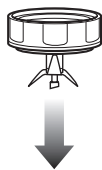

Fig. 9
- 3 Place the single serve blade onto the cup and screw it on tightly until you have a good seal. (Fig. 9)